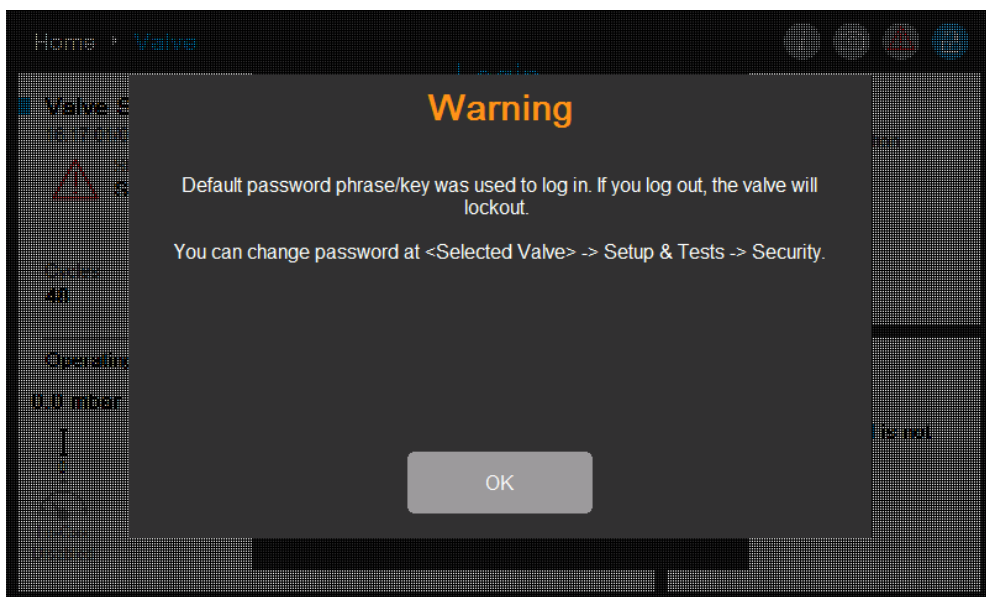
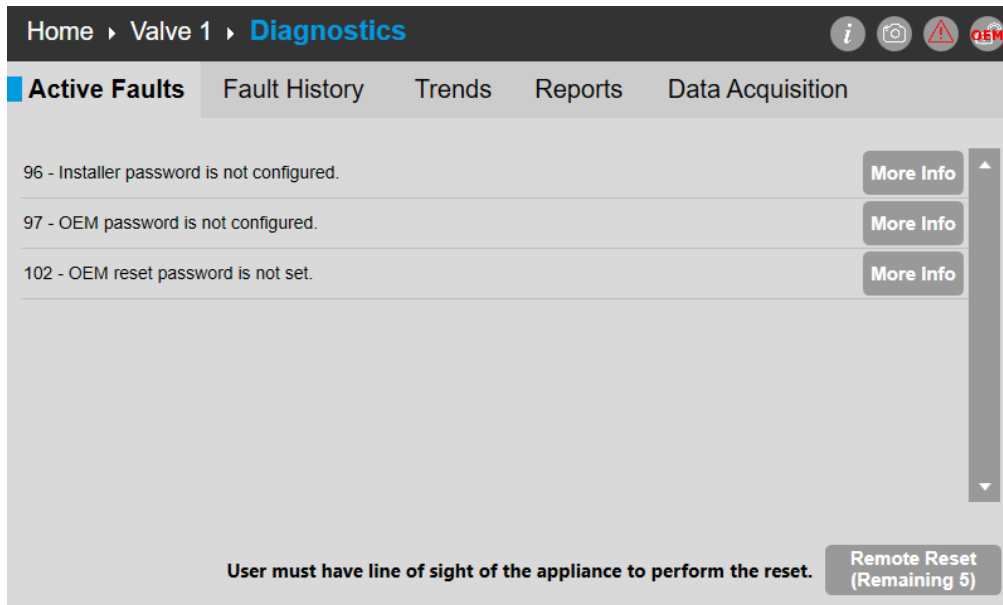

Fig. 68: Warning message when logged in with default password.
Fig. 69: Fault codes when passwords are un-configured.
- If the default passwords are not set to new non-default values, the valve will be in lockout status and will not be operational unless the appropriate user is logged in. The warning message as shown in Fig. 68 will be displayed. All applicable passwords must be configured in order to clear the individual fault codes. Refer to Fig. 69 for the active faults.